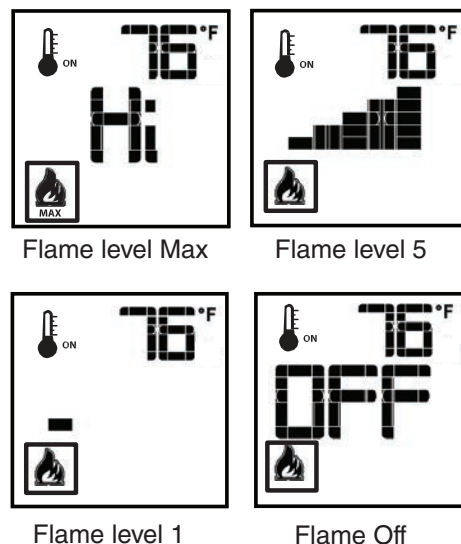

Figure 9: Flame level control.
The Proflame2 has six (6) flame levels. With the fireplace turned on, and the flame level at maximum height, press the down arrow key once to reduce the flame height by one step (Figure 9) until the flame is turned off.